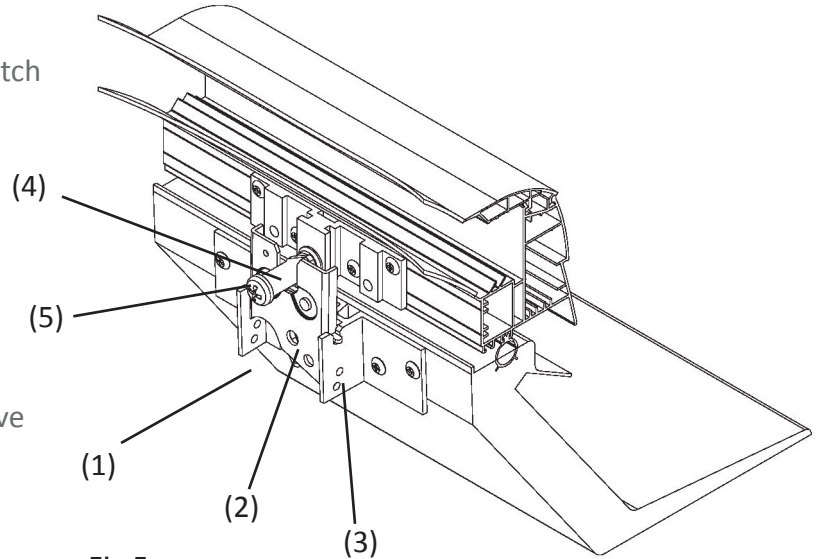

Fig 5.
1. Press the lever (1) to the left and release the latch lock (2) (fig 5)
2. Loosen the mounting bolt (3) (Fig. 5).
3. Loosen the M8 cross-head screw (5) and remove plastic sleeve. (4) (Fig. 5).